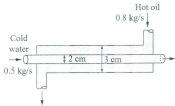

Figure 2
6. Hot oil is to be cooled in a double-tube counter-flow heat exchanger (as shown in Figure 2). [25]